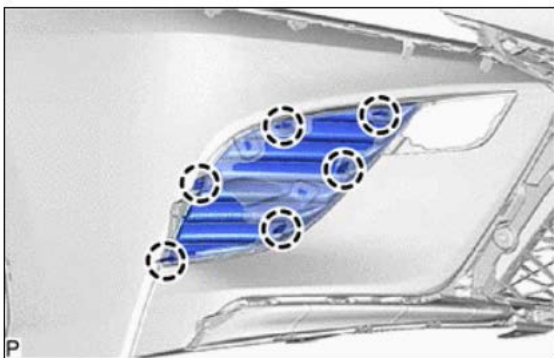

Figure 22
- (a) Disengage the 6 claws to remove the fog light cover LH (Figure 22).